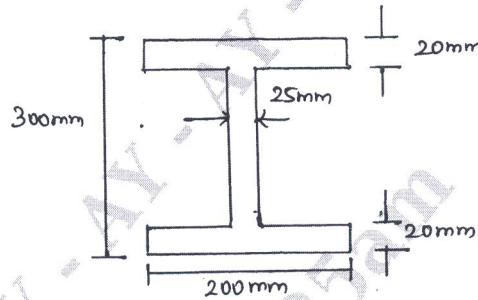

Fig.Q1(a)
- 1 a. The cross section of a beam has the dimensions as shown in Fig.Q1(a). If the beam section is subjected to a bending moment of 100kNm applied in a plane parallel to the longitudinal axis of the beam but inclined at 30° to the length of vertical. The sense of the bending moment is clockwise when viewed from the left-hand edge of the beam section. Determine the distribution of direct stress.